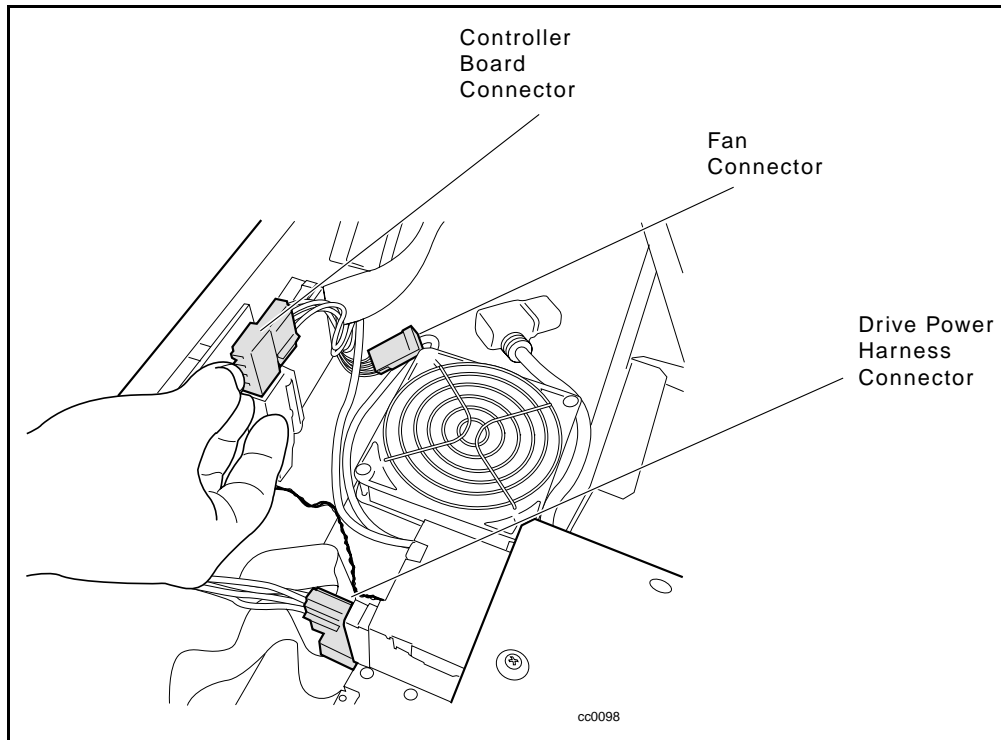

Figure 5-28. Disconnecting the controller board, fan, and drive power harness
10. Disconnect the following from the power supply (see Figure 5-28):
3. Connect the following to the power supply (see Figure 5-28):